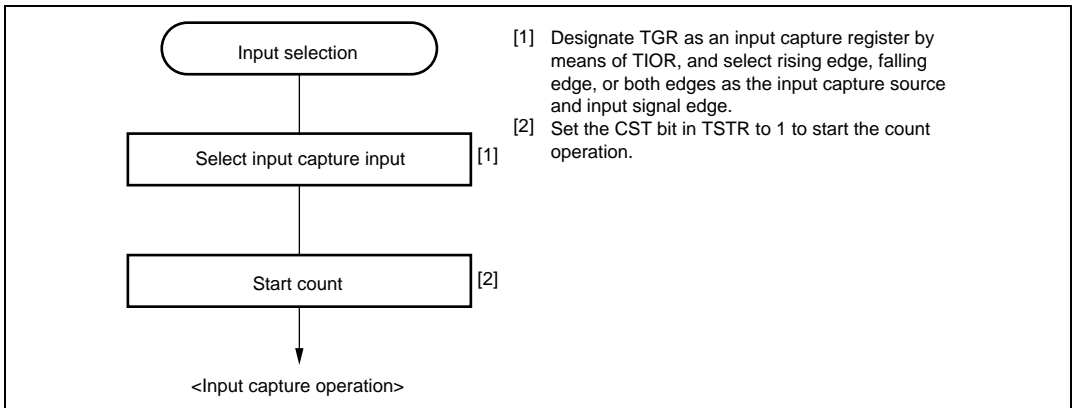

Figure 8.8 Example of Input Capture Operation Setting Procedure
1. Example of input capture operation setting procedure: Figure 8.8 shows an example of the input capture operation setting procedure.